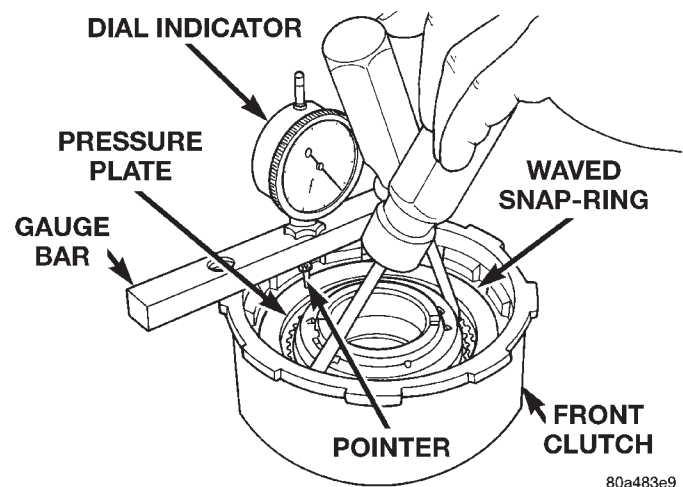

Fig. 136 Measuring Front Clutch Pack Clearance
(10) Using a suitable gauge bar and dial indicator, measure clutch plate clearance (Fig. 136).
(a) Position gauge bar across the clutch drum with the dial indicator pointer on the pressure plate (Fig. 136).